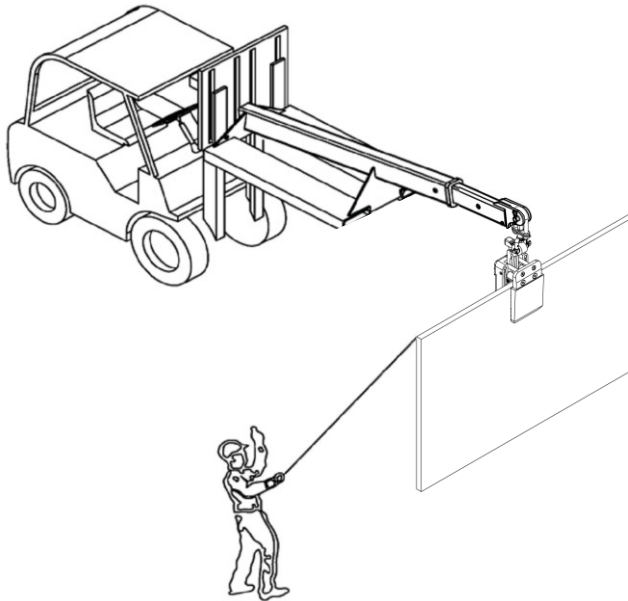

Figure 4.1
Step 4: Move the stone slab to the desired location (Figure 4.1).